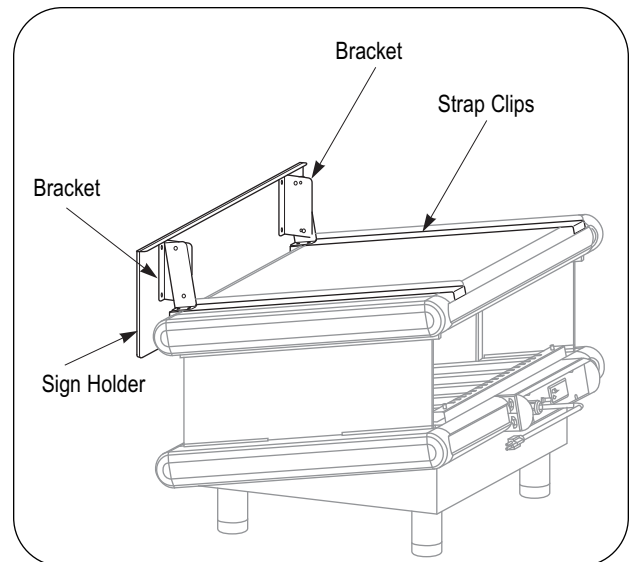

Figure 14. Display Sign Holder
2. Position the straps on top of the warmer and carefully snap them over the top of the bull nose trim piece on the front and rear of the warmer. (See Figure 14.)